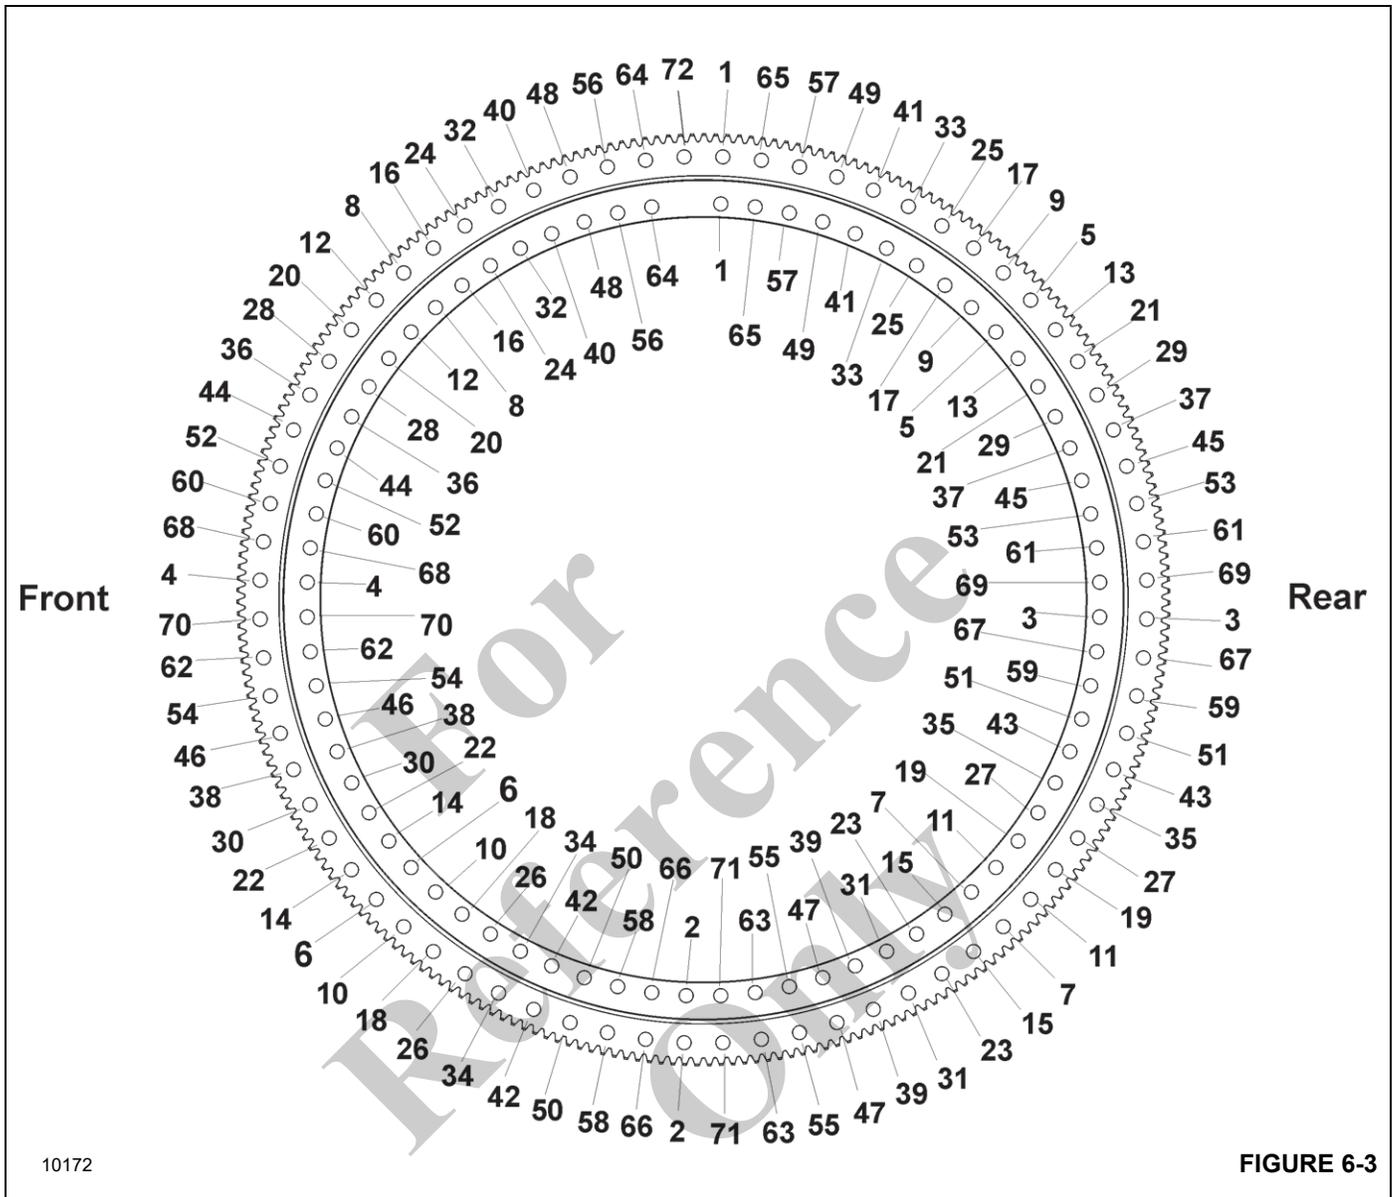

FIGURE 6-3
The inner race bearing bolts are located on top of the inner race (Figure 6-3).
3. Torque all bolts to 80% of the full torque value following a star pattern sequence as shown in (Figure 6-3) starting with bolt number 1. For more information about torque values, see *Fasteners and Torque Values*, page 1-16.
The outer race bearing bolts are located on top of the outer race (Figure 6-3).
3. Torque all bolts to 80% of the full torque value following star pattern sequence as shown in (Figure 6-3) starting with bolt number 1. For more information about torque values, see *Fasteners and Torque Values*, page 1-16.